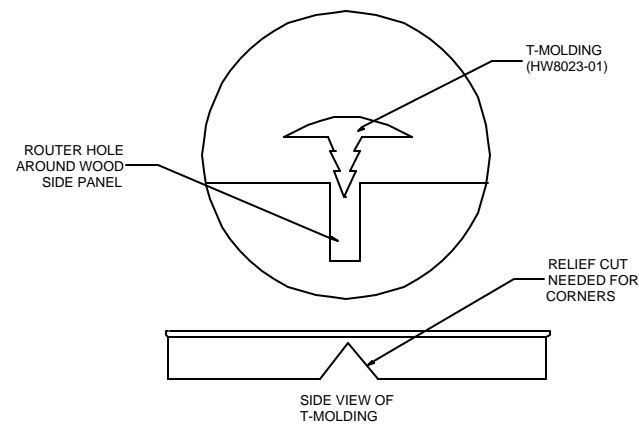

FIGURE 3 - SIDE VIEW OF T-MOULDING IN ROUTER HOLE
8. Install the provided T-moulding. Use a rubber mallet to gently insert the T section of the moulding into the wood side panel. (Make sure that the T-moulding seam is towards the bottom edge of the side panel.) You will need to make relief cuts where the T-moulding bends around the game (see Figure 3). Repeat the same step for the other side of the game.